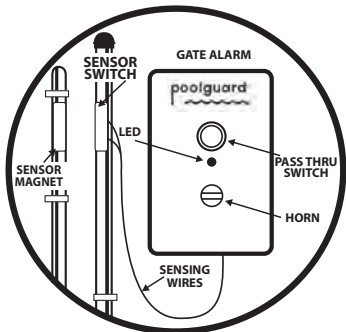

Figure 1
2. INSTALLING POOLGUARD GATE ALARM (FIGS. 1 & 2)
3. INSTALLING GATE SENSOR (FIG. 1)
The Poolguard Gate Alarm is activated by a sensor which consists of two parts. One part contains the sensor magnet. The sensor switch is permanently connected to the sensing wire that comes from the Poolguard Gate Alarm. Using the screw supplied, the sensor switch is installed on the stationary part (usually the frame) of the fence, and the sensor switch should be on the side near the top of the fence post (Fig. 1), but not on the side which is hinged. To function properly the sensor switch and sensor magnet should line up with each other, and a spacing of 2" between the sensor switch and sensor magnet is acceptable. If either the gate or the fence post is made of steel this may limit spacing between sensor switch and sensor magnet to 1 1/4", test your alarm. If spacing of 2" is needed, use 1/4" thick wood or plastic shims under the sensor switch and sensor magnet.
4. OPERATING YOUR GATE ALARM (FIG. 1)